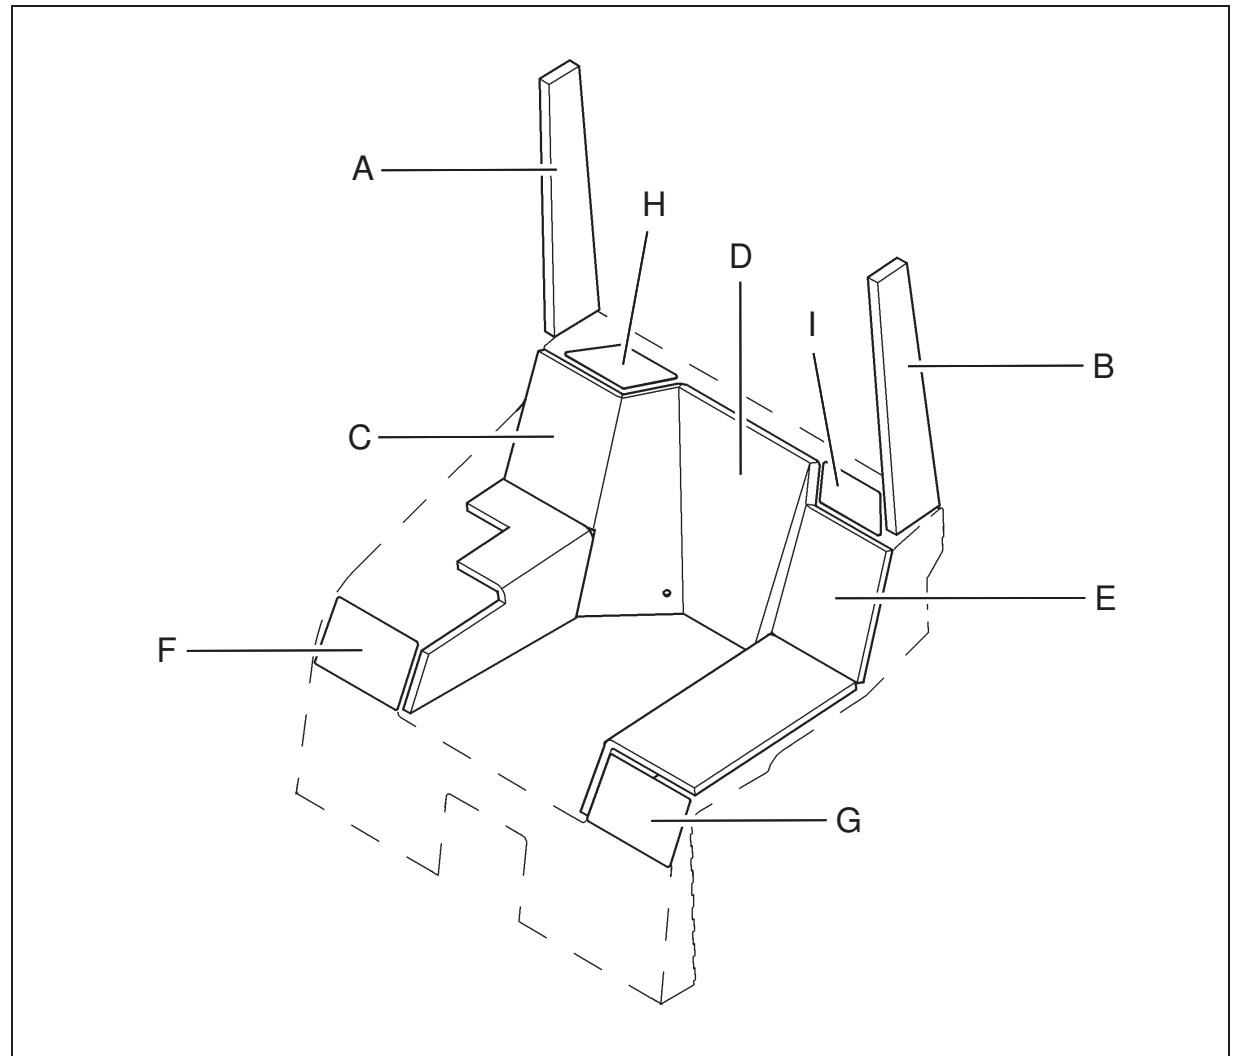

Fig. 11
3. Fit insulation pads (Fig. 11/1) on the surfaces listed below:
- Upright, right (A)
- Upright, left (B)
- Panel, right (C)
- Panel, rear (D)
- Panel, left (E)
- Panel, front right (F)
- Panel, front left (G)
- Panel, top right (H)
- Panel, top left (I)